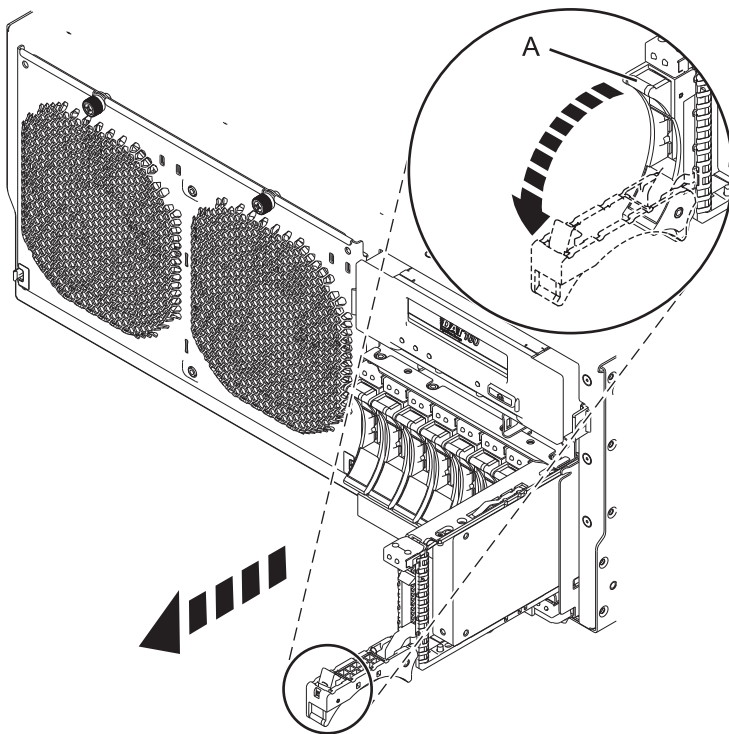

Figure 28. Removing a disk drive from the 8202-E4B, 8202-E4C, 8205-E6B, or 8205-E6C
1. Unlock the disk drive handle by squeezing it and pulling it out toward you, as shown in Figure 28.